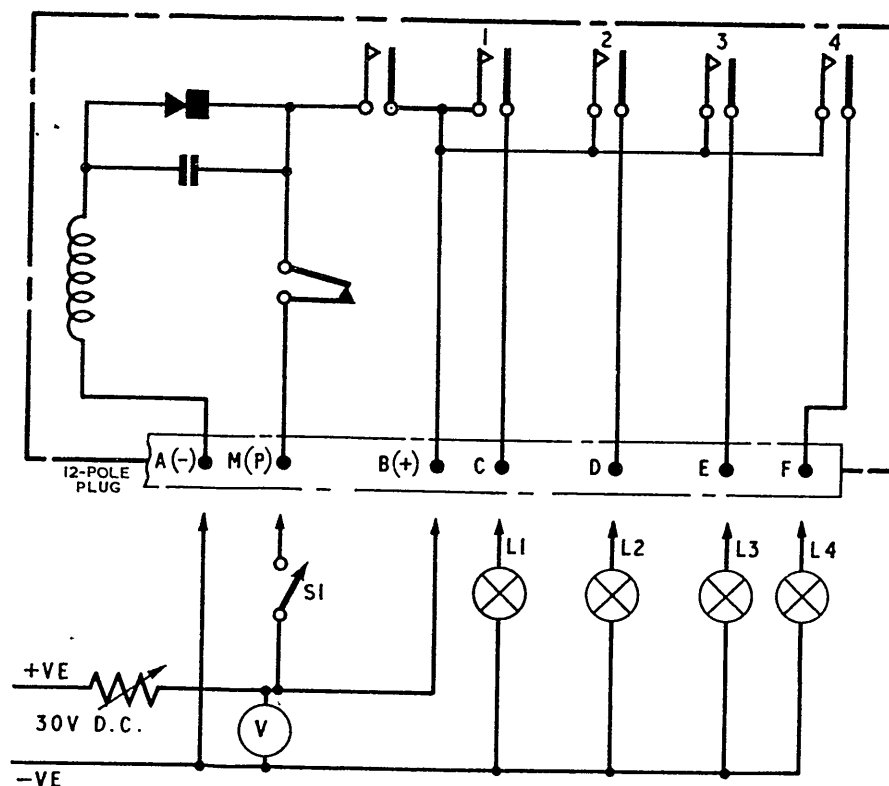

Fig. 1. Switch, Type D8134, circuit diagram and test circuit
1. This time delay switch has four pairs of circuit contacts, the circuit diagram (fig. 1) shows the switch internal wiring and the associated test circuit. The total motor run and circuit contact timing is detailed in para. 3.